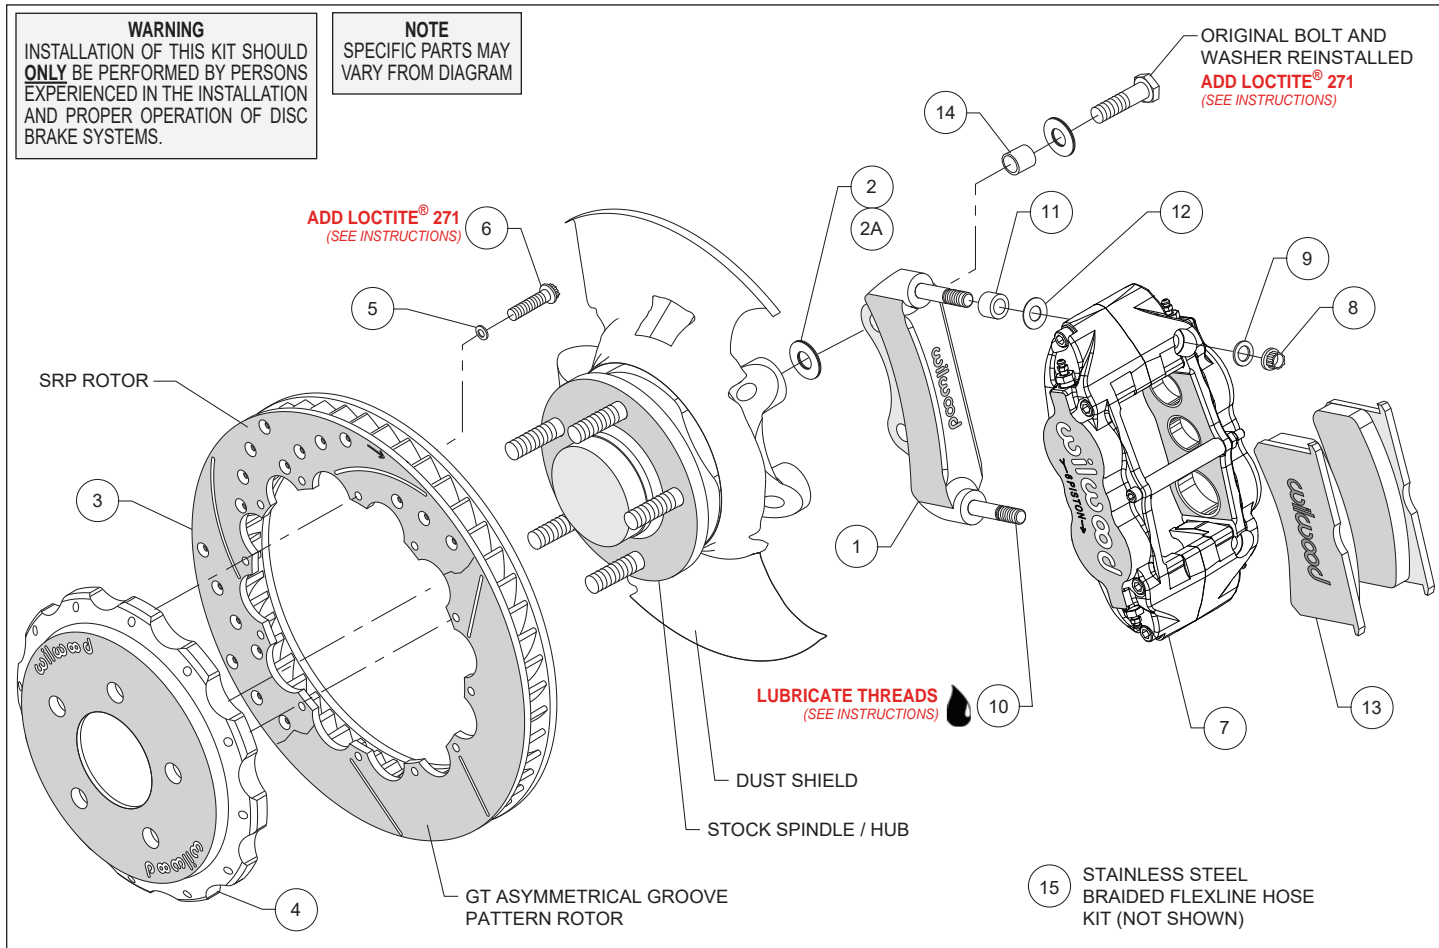
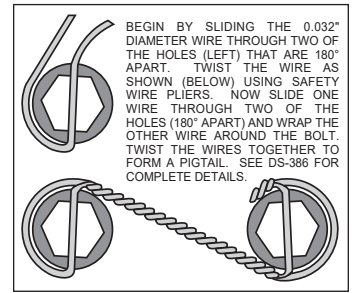

Figure 1. Typical Installation Configuration
Figure 3. Safety Wire Diagram
Assembly Instructions (numbers in parenthesis refer to the parts list/diagram on the preceding page, and Figure 1):
- The caliper mounting bracket assembly (1) should be installed first with clean, dry threads on the mounting bolts. Install the bracket from the rear side of the spindle by sliding the original stock bolts through washer, sleeve (14) (sleeve only utilized on 2004 model year), and bracket (1). Place shim washer (2 or 2A for 2004 model year) between the bracket (1) and the spindle (see Figure 1). The bracket must tighten squarely
- Orient the rotor (3) and the hat (4) as shown in Figure 1 and Photo 1. Attach rotor to hat using bolts (6) and washers (5). Using an alternating sequence, apply red *Loctite*® 271 to the threads and torque bolts to 155 in-lb. For an added measure of security, the bolts may be safety wired using standard 0.032 inch diameter stainless steel safety wire as shown in Figure 3. Please refer to Wilwood's data sheet DS-386 (available at www.wilwood.com/Pdf/DataSheets/ds386.pdf) for complete safety wire installation instructions.
- **NOTE:** This kit contains distinct right and left hand calipers that must be mounted in a specific direction, as described below. Lubricate the caliper mounting studs (10) with lightweight oil. Initially place one .035" thick shim (12) and one spacer (11) on each stud as shown in Figure 1, and Photo 2. Mount the caliper (7) onto the bracket (1) using lock nuts (8) and washers (9), Figure 1. Ensure that the caliper is mounted so that the largest pistons are at the rotor exit end of the caliper, in relation to the direction of rotor rotation. Temporarily tighten the lock nuts and view the rotor through the top opening of the caliper. The rotor should be centered in the caliper, Photo 3. If not, adjust by adding or subtracting shims (2 and/or 2A) between the bracket and the upright. Always use the same amount of shims on each of the two mounting bolts. Once the caliper alignment is correct, remove the bracket mounting bolts one at a time, apply red *Loctite*® 271 to the threads, and torque to manufacturer's specifications.